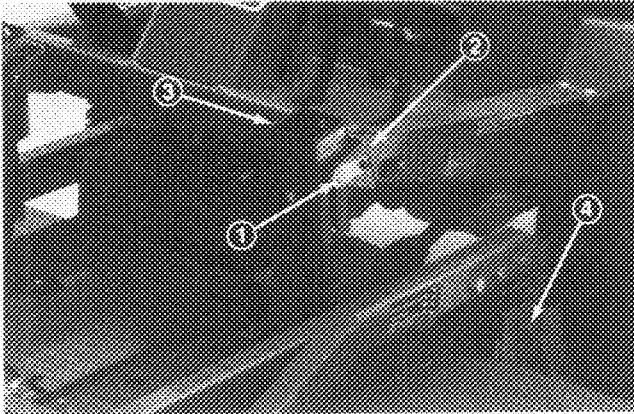

Figure 16
2. Disconnect counterbalance from traction unit, remove lock pins from bracket, separate spring tension assembly from bracket and lay it down on the deck. Loosely secure lock pins to bracket to prevent losing them (Fig. 16).